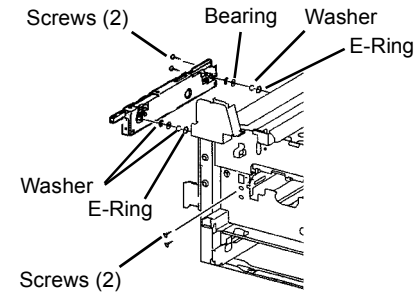

Figure 1 Removing Left Xerographic Lift
29. Remove Left Xerographic Lift (Figure 1).